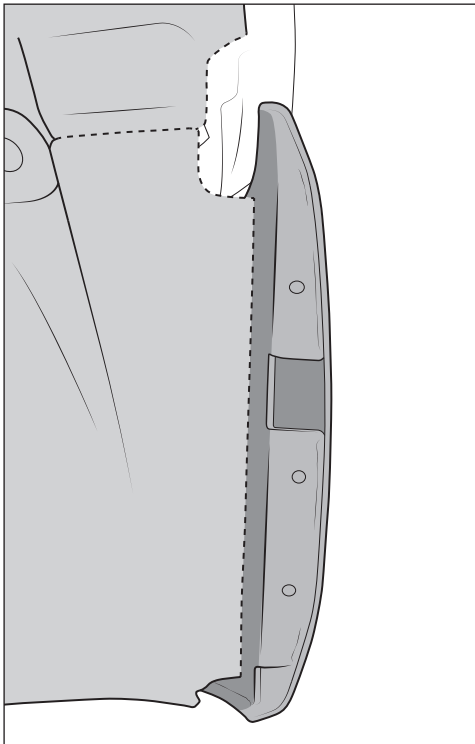

Figure 30
5. Trim the front edge of both inner fender liners to provide approximately 1/2" of gap between the liner and the bumper corner (fig. 30).